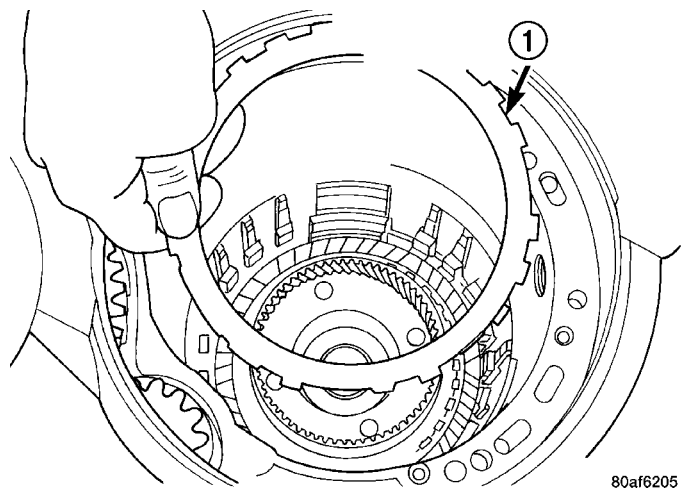

Fig. 126 Install Low/Reverse Reaction Plate
(41) Install low/reverse reaction plate with flat side up (Fig. 126).